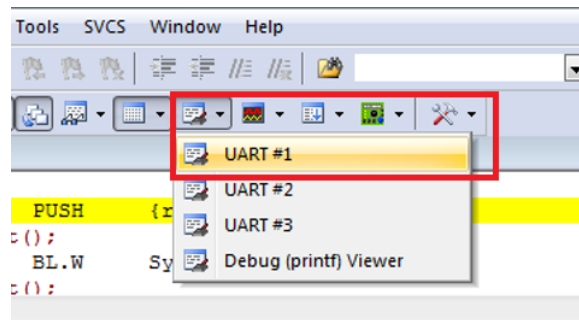
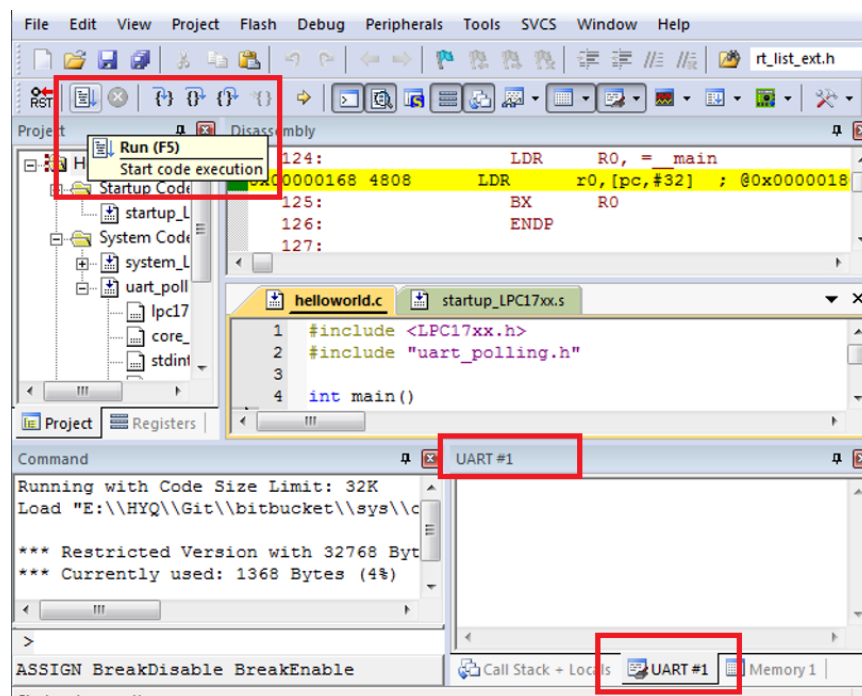

Figure 1.8: Keil IDE: Enable UART Window View
Figure 1.9: Keil IDE: UART Window View and Run Button
5. Choose **UART#1** from the Serial Windows button (see Figure 1.8). You will see the **UART#1** window shown up at the bottom right part of the screen (see Figure 1.9).
6. Click the Run button or press F5 key to execute the program under simulator (see Figure 1.9). You will see "Hello World!" appearing in the **UART#1** window in the simulator.